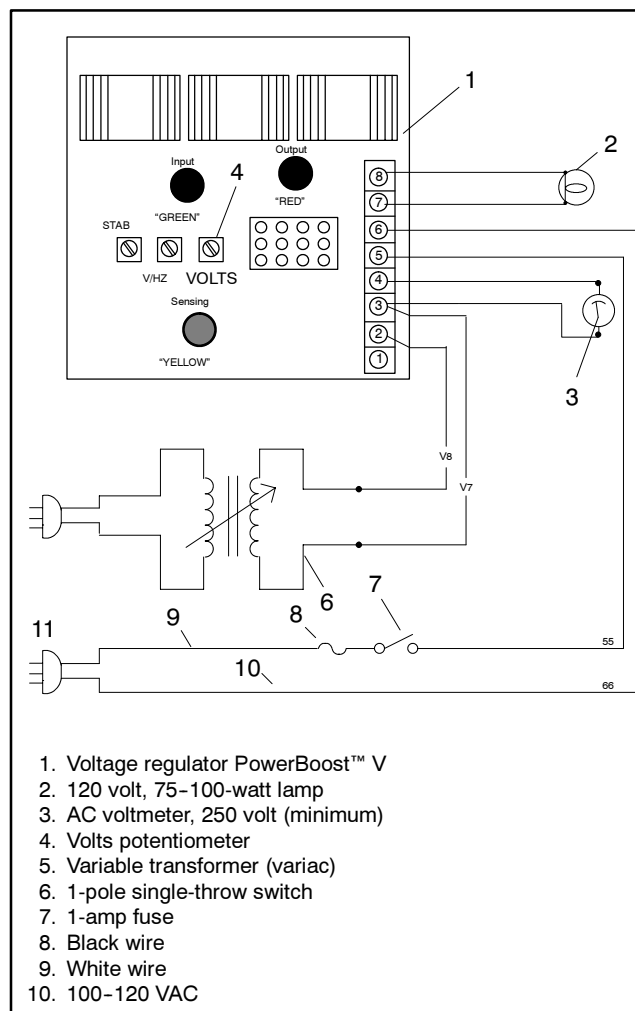

Figure 5-22 Voltage Regulator B-Board
1. Connect components as shown in Figure 5-22.